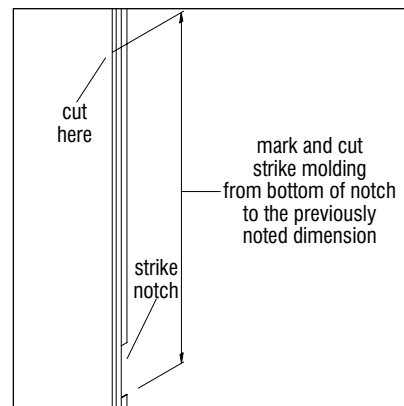

Figure 2 - Locate New Strike Location
2. Remove the strike plate, strike side door jamb molding, and any remaining black plastic clips from the door post. Next, measure the strike molding from the bottom of the strike notch to the previously noted dimension above the strike notch, mark and cut (Figure 2). Re-apply all black plastic clips to the cut moldings spacing them about 12" apart.